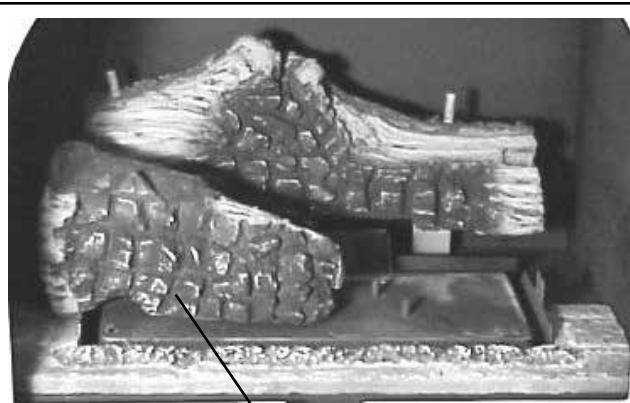

Figure 19
3. Place the left front log onto the corresponding burner pin and sub-floor left tab as shown in **Figure 19**.